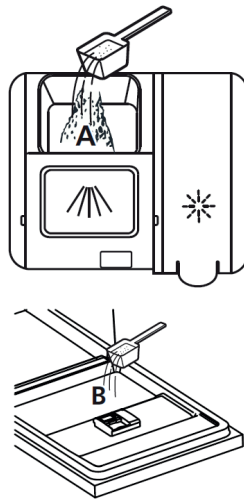

Fig. 8
2. Add detergent to the dispenser main chamber (A) just before the washing cycle (Fig. 8). For better cleaning results, especially if you have very dirty dishes, pour a small amount of detergent directly onto the inner door recess (B). The detergent thus added is already activated during the pre-wash phase.